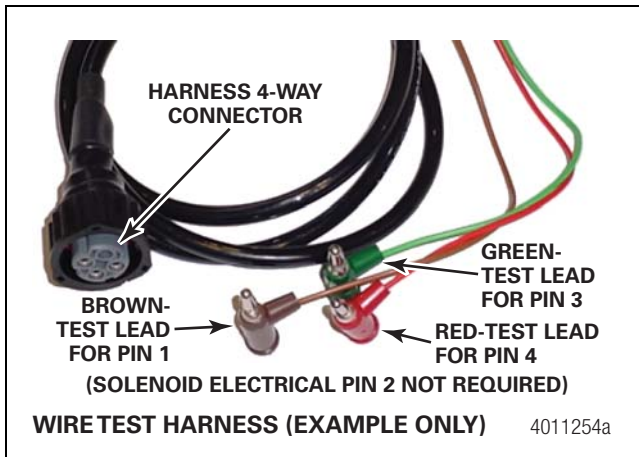
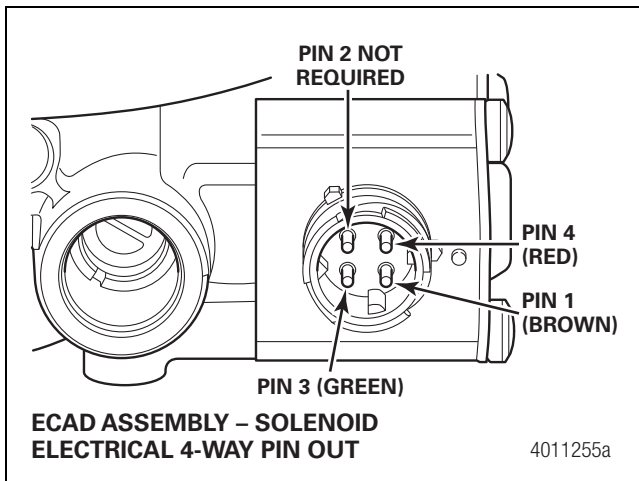

Figure 2
Figure 3
4. Use a volt/ohm meter to test solenoid resistance as follows. Select electrical resistance (Ω Ohm), and set the scale according to the range values measured in the following steps. Figure 2 and Figure 3.
- C. Test between red test lead Pin 4 and ECAD valve body for ground. The measured resistance should be open (OL).